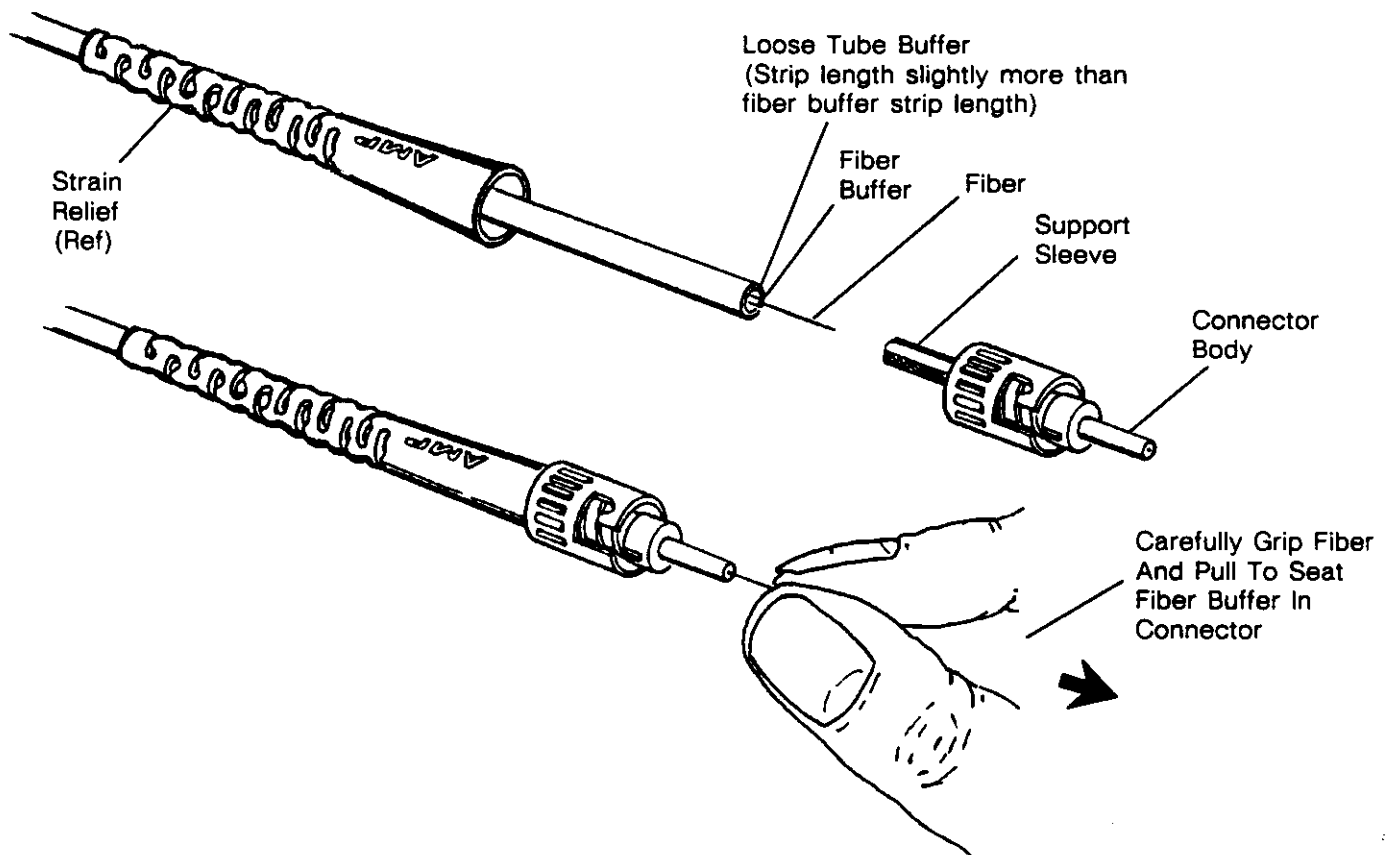

Fig. 12. 1.2 mm Loose Tube Buffer
B. 1.2mm Loose Tube Buffer with No Strength Members (See Figure 12)